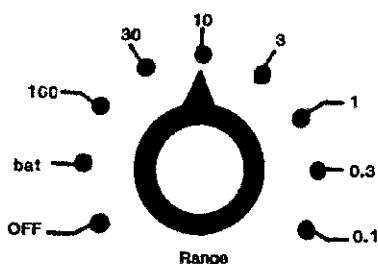

Figure 2. Corrections to be Made to Readings with Various Switch Positions to Give True Reading of Radiation
3.4 Meter Readings - The meter scale is calibrated in milliroentgens per hour (mR/h) when used with the standard model 491-30 Probe on  $^{137}\text{Cs}$  gamma radiation. The secondary scale on the meter face indicates approximate counts per minute (cpm). Multiply the scale reading by the range switch setting (X100, X30, etc.) to determine the dose rate. These corrections are illustrated in Figure 2.